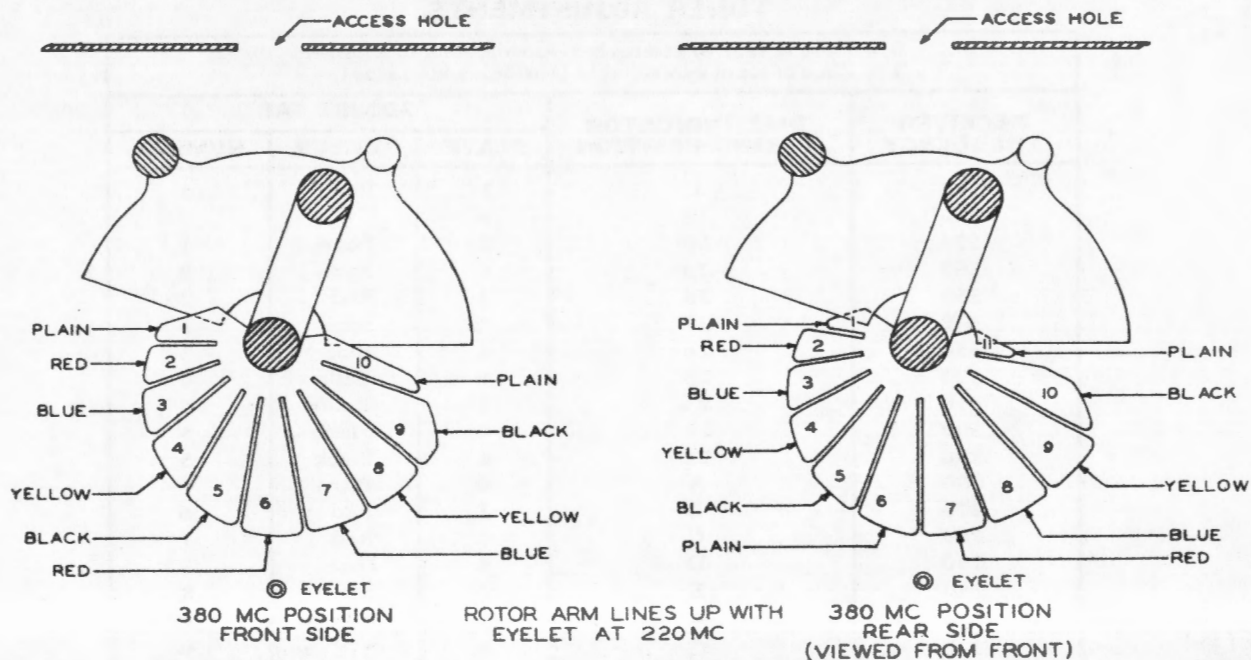

Figure 6-10. Radio Receiver R-278B/GR, Frequency Multiplier-Amplifier, Tuner Capacitor Sectors
Step 14. The rest of the tuning procedure consists of bending tuner tabs (figure 5-14) at each 10-mc frequency to bring each tuner to resonance at that frequency. In general, by use of the tuning wand, determine whether more or less capacity is needed, operate the tracking control switch to position the tuners making the tabs accessible, bend the correct tab toward the stator plate for more capacity or away for less capacity. Refer to table 6-2 and figure 6-10